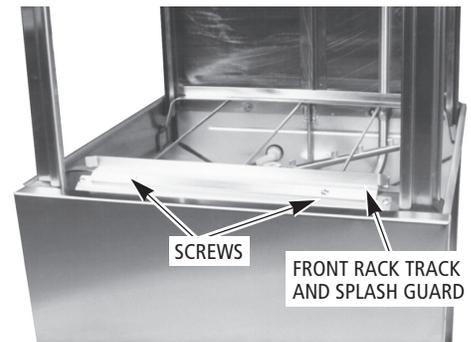

Figure 1
1. Remove the two screws and nuts that secure the front rack track and splash guard (*Figure 1*) and remove the front rack track and splash guard. Reassemble the front rack track and splash guard by replacing the two screws and nuts in the same mounting holes from which they were removed.